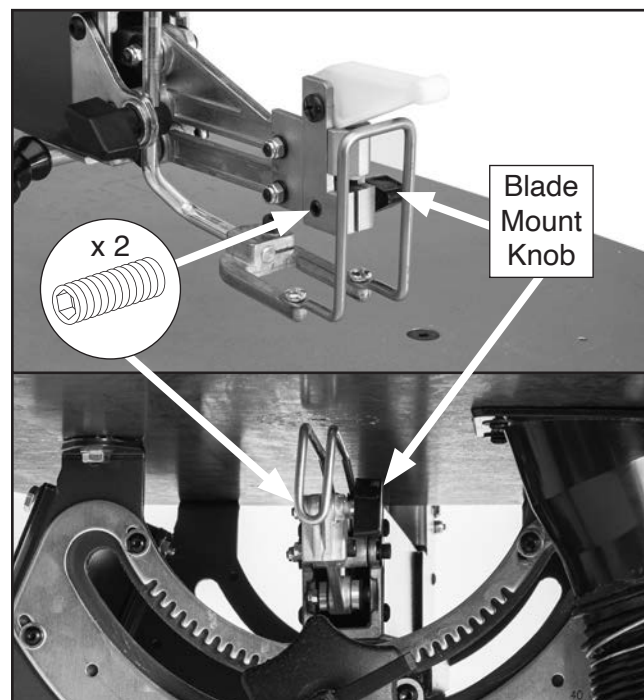

Figure 42. Location of blade mount hardware.
4. Hold blade mount knob steady and use hex wrench to loosen blade mount set screws (see **Figure 42**).